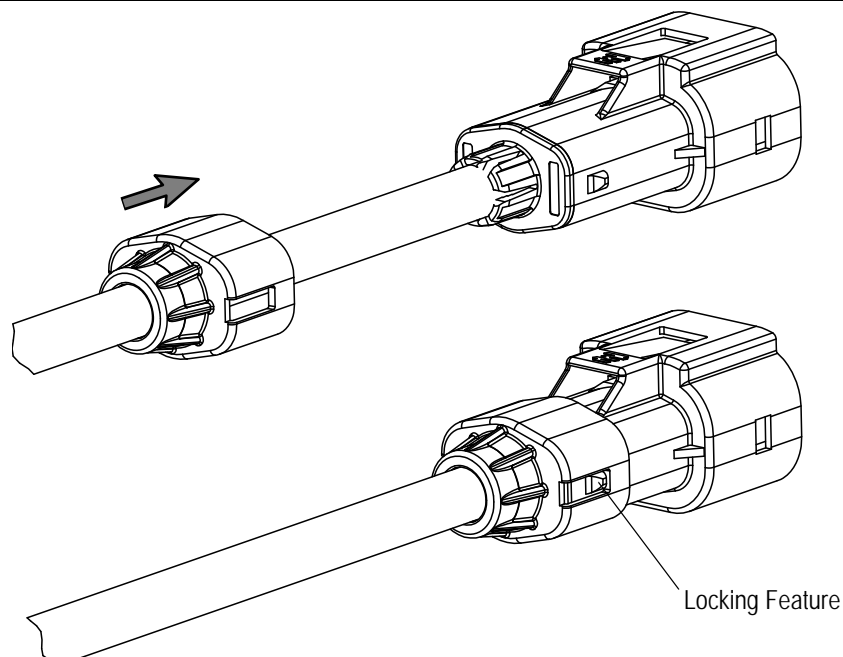

Figure 18
17. Slide the cable seal retainer forward on the cable and over the cable exit end of the connector assembly until it fully locks to the connector outer housing. Visually check to ensure that both locking features are engaged as shown in Figure 18. Gently pull back on the cable seal retainer to check that it is fully locked in place.